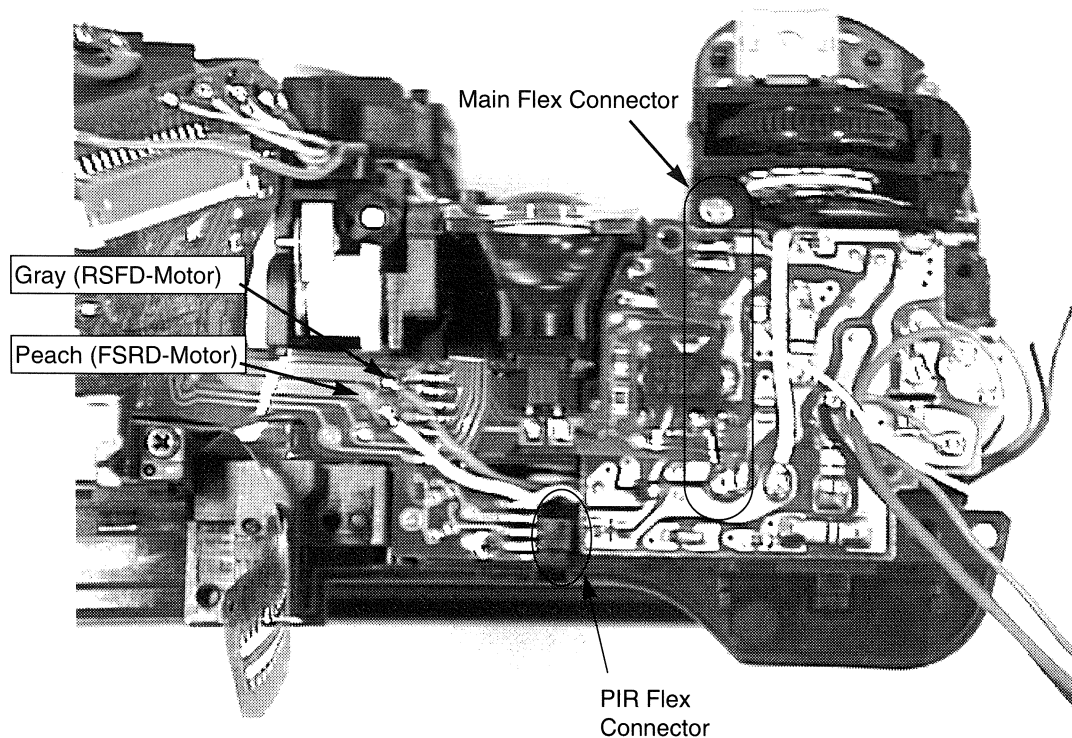

Fig. 3-16 Motor Leads
3. Unsolder the main flex from the flash circuit board at two places (Fig. 3-16).
4. Unsolder the signal unit from the flex (Fig. 3-16).
5. Unsolder the DC/Dc flex from the two battery contacts (Fig. 3-16).